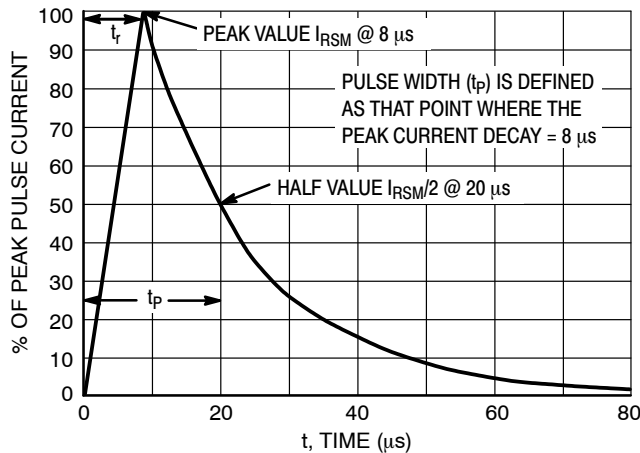

Figure 5. 8 X 20 μs Pulse Waveform
1. Non-repetitive current pulse per Figure 5 (Pin 5 to Pin 2)
4. Non-repetitive current pulse per Figure 5 (Any I/O Pin to Ground)